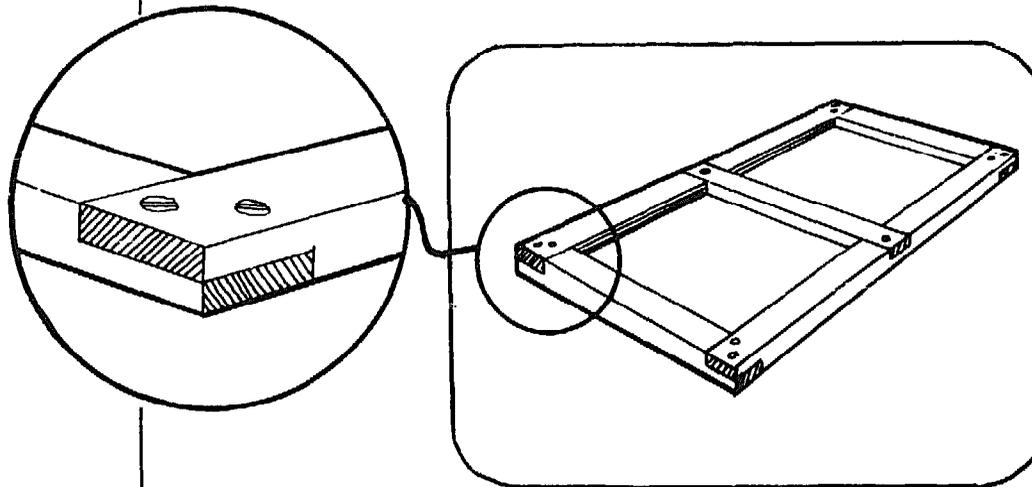

Figure 3
*Important:* This frame is the box cover. Its outside dimensions must be 1/8" larger than the outside of the box. If the box is a perfect 96"x48", you will cut two 96 1/8" pieces and two 48 1/8" pieces. But *wait!* Measure the box. Then cut and build to fit the largest dimensions of the box. Form a rectangle using glued-and-screwed lap joints as shown in Figure 3. *Make sure this frame is square!*
2.2 Lap join to form a rectangle as shown in Figure 3. Glue, then screw joints together. Screws should be on a diagonal to avoid splitting.